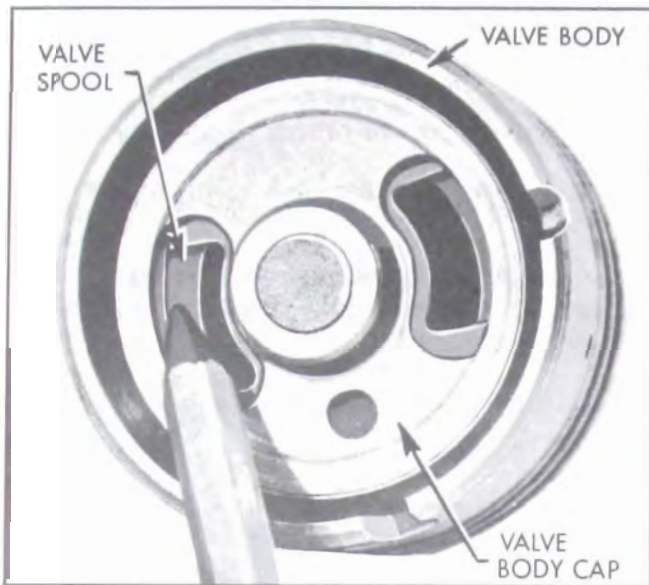
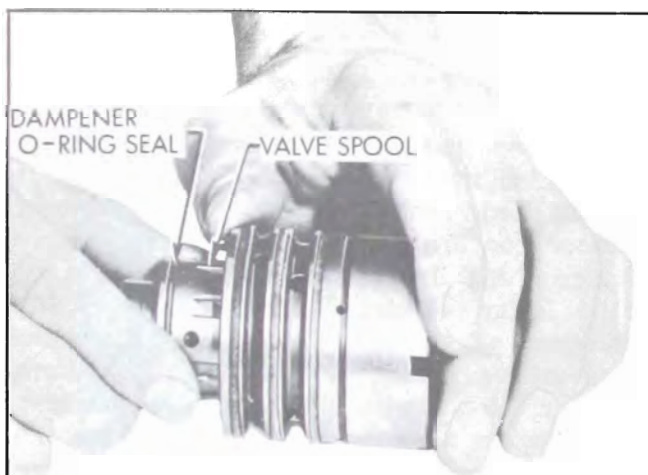

Figure 8-48—Separating Valve Spool From Valve Body
Figure 8-49—Withdrawing Valve Spool From Valve Body
3. Remove the valve spool by holding the valve assembly in one hand with the stub shaft pointing downward. Insert the end of a pencil or wood rod through the opening in the valve body cap and lightly push on the valve spool until it is far enough out of the valve body to be withdrawn. See Figure 8-48. Withdraw the spool with a steady rotating pull to prevent jamming. See Figure 8-49. If slight sticking occurs, make a gentle attempt to reverse the withdrawal procedure. If this does not free spool, it has become cocked in the valve body bore. Do not attempt to force the spool in or out if it becomes cocked, but continue with the following step.